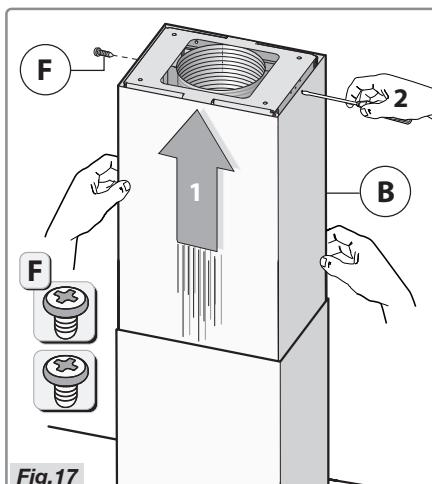

Fig.17
- Connect the shaft **B** to the ceiling plate using the two screws **F** (Fig.17).